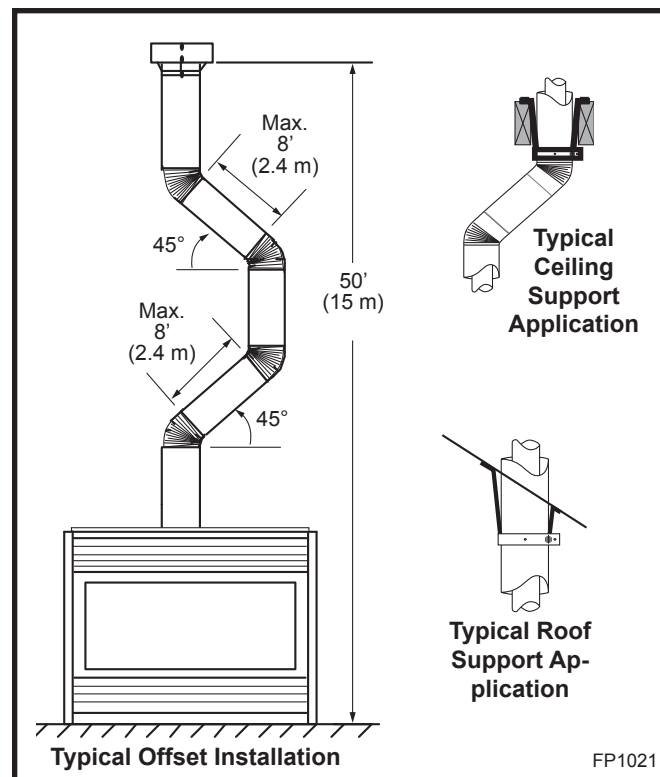

Fig. 37 Typical vertical roof applications.
4. Two sets of 45° elbows offsets within these vertical installations. From 0 to a maximum of 8' (2.4 m) of vent pipe can be used between elbows. (Fig. 37)
! The enlarged ends of the vent section always face down. (Fig. 37)